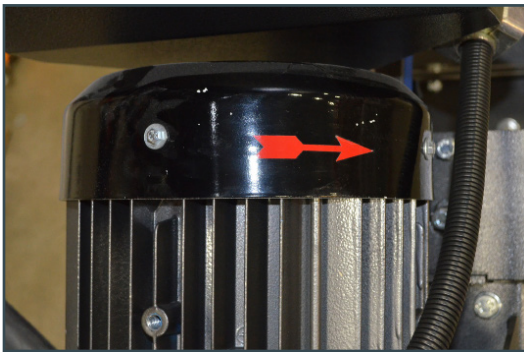

FIG. 6
4. Check the motor direction. It should match the red arrow on the blast motor (Figure 6). If the direction is wrong, push the "Stop" button and allow the motor to come to a complete stop. Then, turn the key to position B on the controller and repeat these steps.